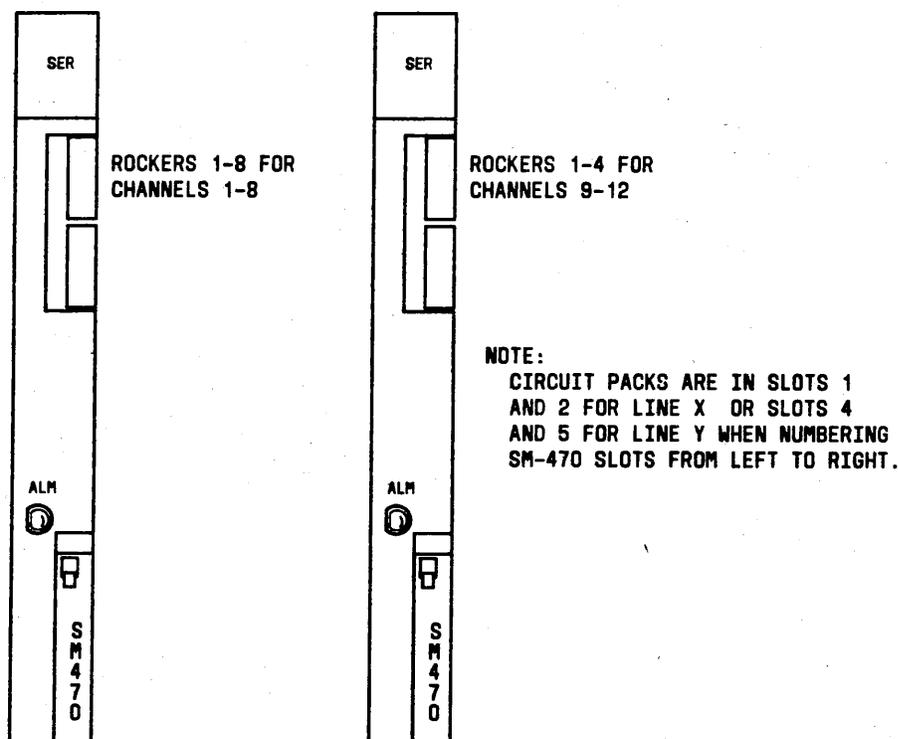

Fig. 19—32-MS Tail for Channels 1 Through 12
- To provide echo canceling for channels 1 through 12, specify circuit packs SM470 be installed in slots 1 and 2 for line x or slots 4 and 5 for line y. Figure 19 shows which rockers apply to which channels.